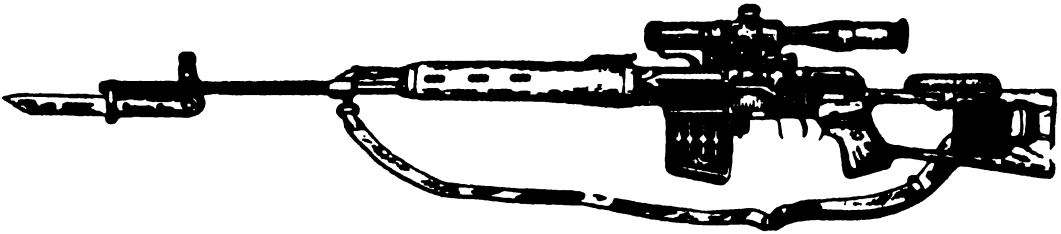

Figure 12
12. Identify the SVD (fig. 12).